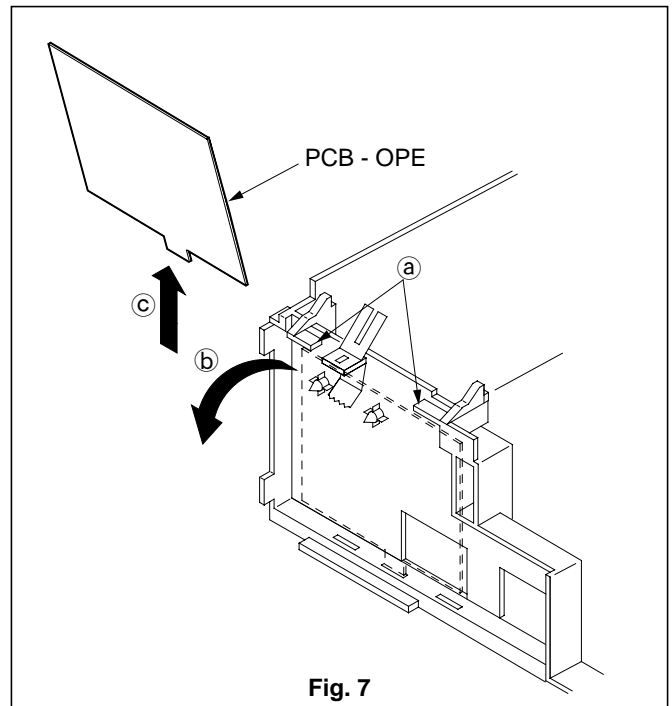

Fig. 7
3. Unfasten the one catch (a) shown in Fig. 7 and rotate the PCB-OPE in the direction shown by arrow (b) and remove it in the direction shown by arrow (c).